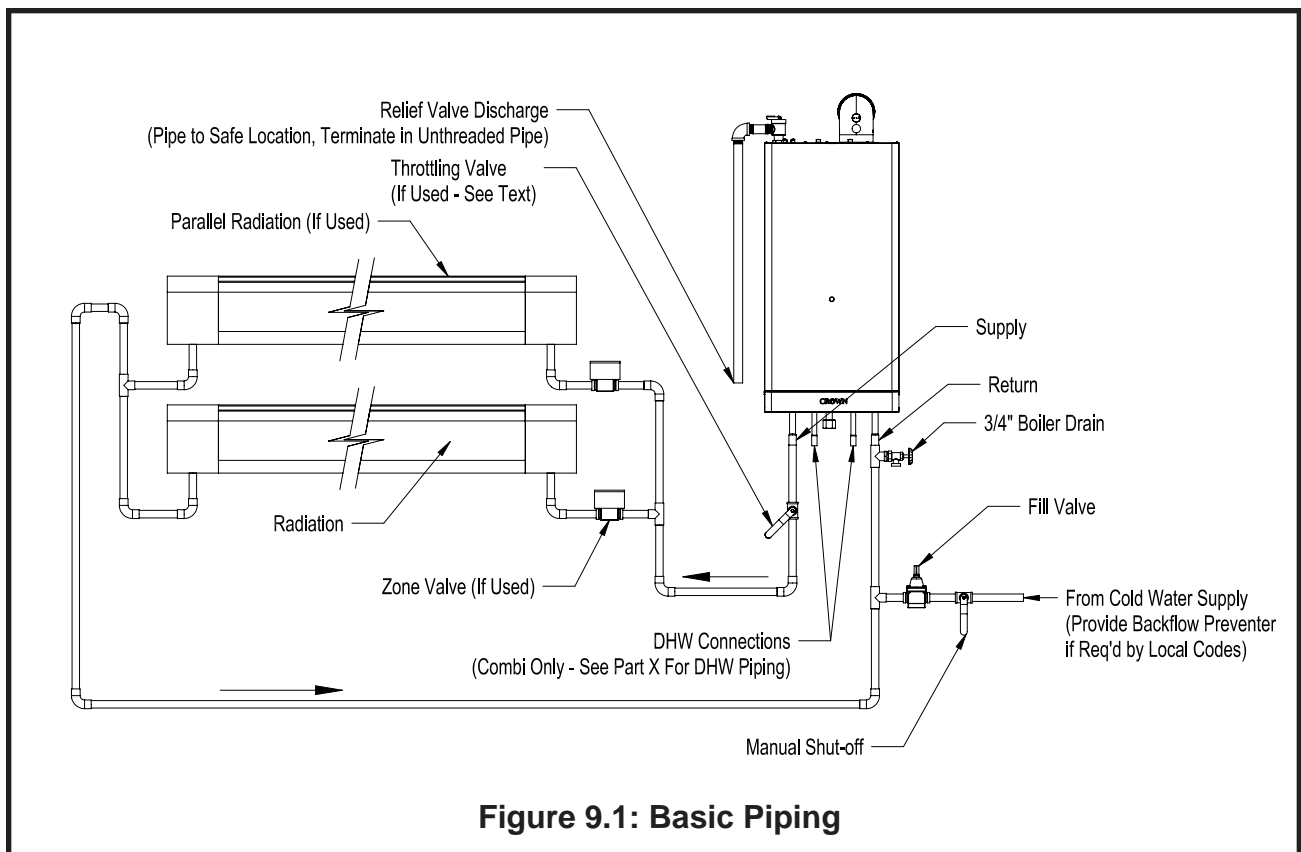

Figure 9.1: Basic Piping
Figure 9.1 shows typical boiler system connections on a single zone system. Additional information on hydronic system design may be found in *Installation of Residential Hydronic Systems* (Pub. #200) published by the Hydronics Institute in Berkeley Heights, NJ. The components in this system and their purposes are as follows:
- 3) Throttling Valve or Flow Restrictor - This boiler is equipped with a differential pressure switch to prove that there is flow through the boiler before allowing it to fire. Reliable operation of this switch requires that there be a head loss across the heating system of at least 5.1ft wc. In order to assure that this head loss will always be present, either a throttling valve must be installed as shown in Figure 9.1 or the flow restrictor shown in Figure 9.4 must be installed. Use the following guidelines to determine which device to use:
- 7) **Fill Valve (Required)** – Either a manual or automatic fill valve may be used. Connect the fill as shown in Figure 9.1.
- 11) **Drain Valve (Required)** – Install a 3/4" boiler drain (not supplied) in the return piping as shown in Figure 9.1.